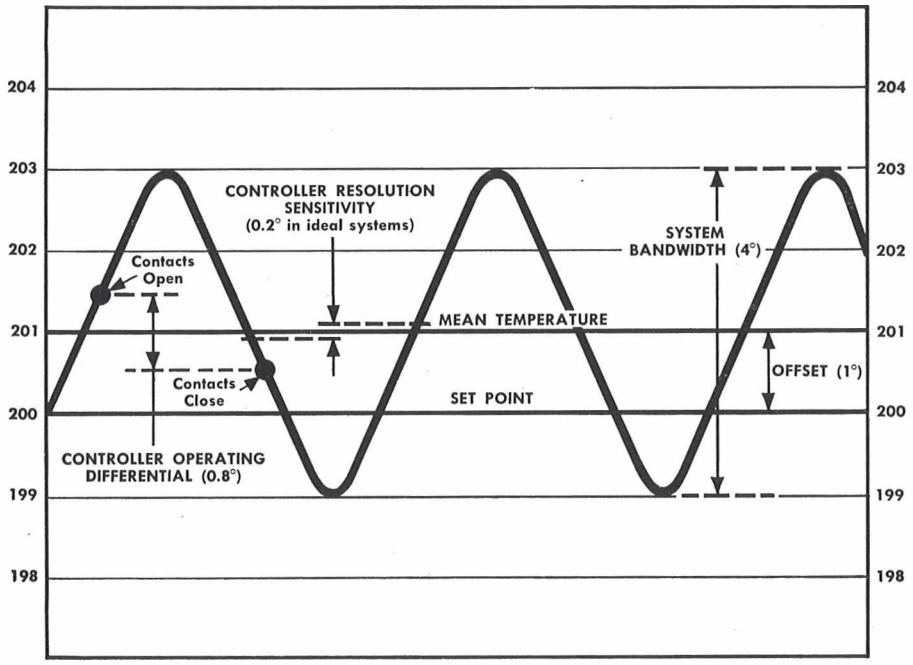

Fig. 1
The term "control accuracy" is frequently used rather loosely to denote several distinct and different concepts. For the sake of clarity, these concepts will be labelled and discussed briefly. (See Figure 1.)
A. *System Bandwidth:* the total temperature variation—measured at some point in the system, usually at the work area. For example (Figure 1), if the maximum and minimum temperatures in a system are 203 and 199°F, the bandwidth is 4 degrees. (Commonly this is referred to as  $\pm 2^\circ$ , though the correct expression is  $4^\circ$ .)
b. *Mean Temperature*: the numerical average of the maximum and minimum temperatures reached at some point in the system. For example (Figure 1), for a maximum of 203 and a minimum of 199, the mean temperature is 201. In a large number of systems, maintaining the mean temperature relatively constant, rather than maintaining a very narrow bandwidth, is the practical objective. The mean temperature (also referred to as the "control point") may or may not be the same temperature as the controller's set point. When they are not the same, an offset exists.
c. *Offset*: the difference between any two temperatures, such as between the setting of the controller and the mean temperature of the load when the system is at a steady state. In Figure 1, the offset is  $1^{\circ}$ .
ing element temperature at make and break of the controller's contacts when the controller is cycled in a specified control system. For example (Figure 1), when the controller's contacts are closed at 200.6 and open at 201.4, its operating differential in that particular system is 0.8 degrees. For some types of controllers the operating differential is affected by electrical load, set point and physical location, so that it is usually larger than the controller's resolution sensitivity.